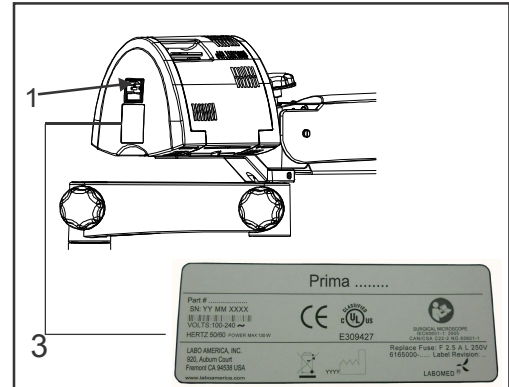

Fig. 7
Connect the power cable to the AC inlet socket (2) provided on the back of the illumination box as shown as (1) in the fig 7.
Note: Power supply is designed with universal input 100V-240V AC, 50/60Hz. To plug in follow instruction on electrical label provided at bottom of the arm as shown (3) here in Fig. 7.